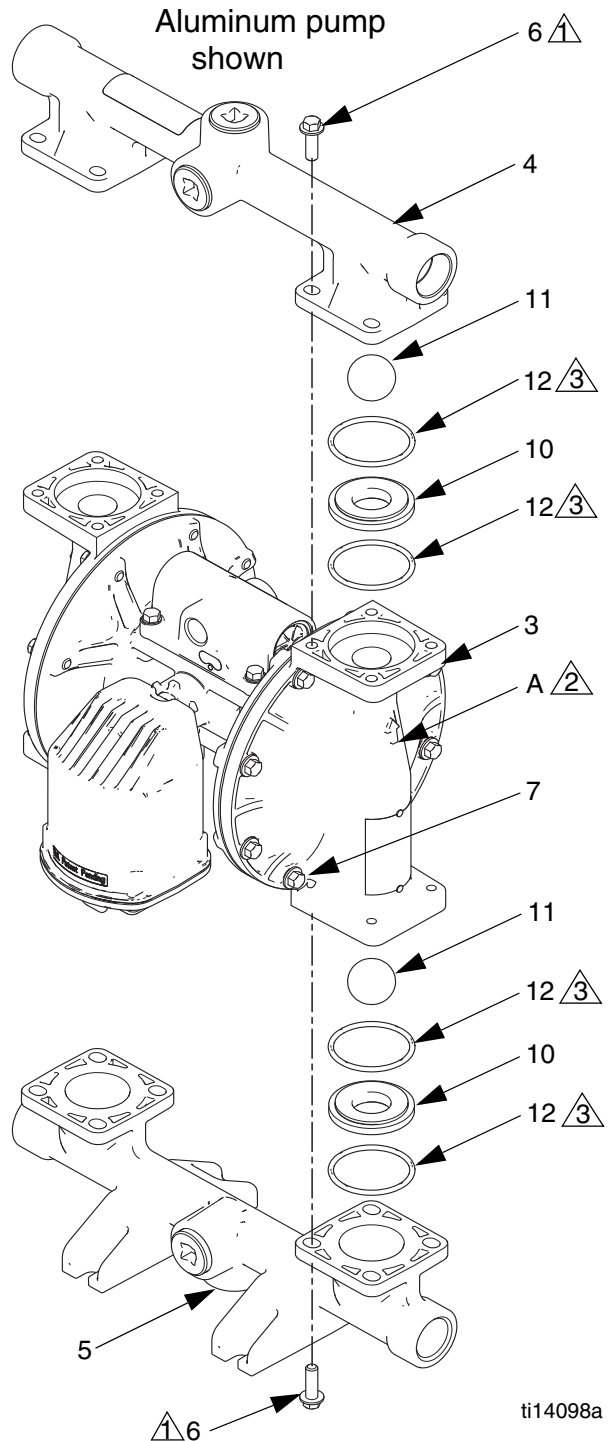

FIG. 7. Ball check valve assembly
3. Use a 10 mm socket wrench to remove the outlet manifold fasteners (6). See FIG. 7.
4. Remove the o-rings (12, *not used on some models*), seats (10), and balls (11).
5. Turn the pump over and remove the inlet manifold. Remove the o-rings (12, *not used on some models*), seats (10), and balls (11).
2. Reassemble in the reverse order, following all notes in FIG. 7. Be sure the ball checks (10-12) and manifolds (4, 5) are assembled **exactly** as shown. The arrows (A) on the fluid covers **must** point toward the outlet manifold (4).
- ⚠ 2 Arrow (A) must point toward outlet manifold.